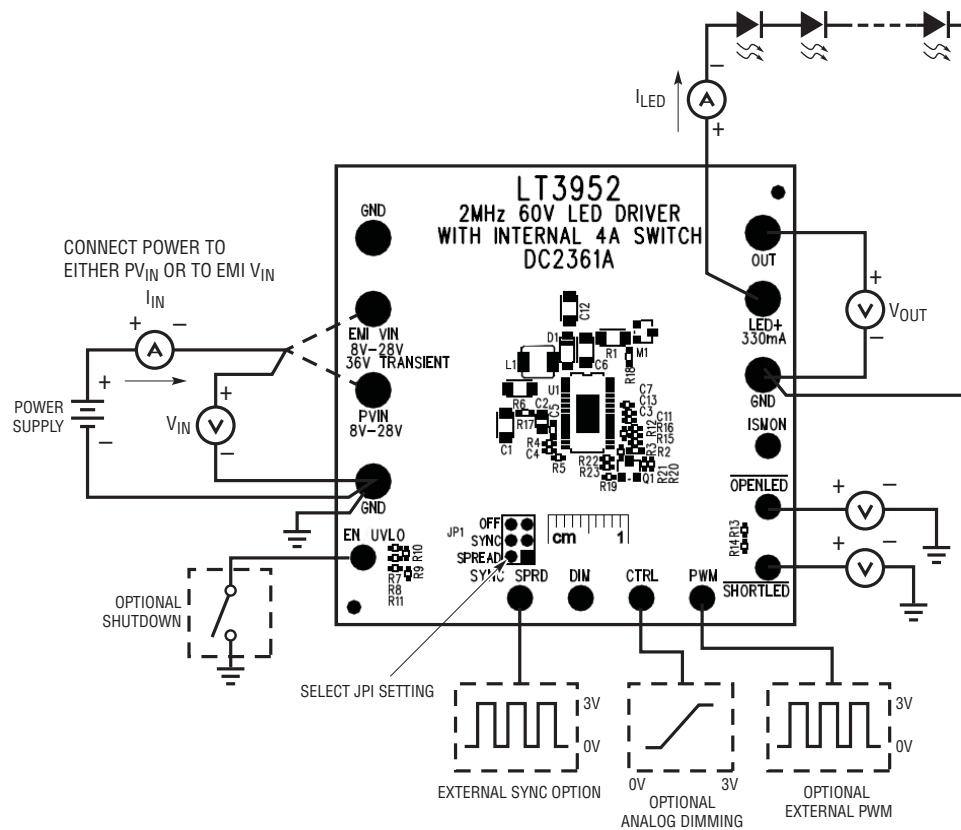

Figure 1. Test Procedure Setup Drawing for DC2361A
1. Connect a string of LEDs that will run with forward voltage less than or equal to 40V (at 330mA), but greater than  $PV_{IN}$ , to the  $LED^+$  and GND terminals on the PCB as shown in Figure 1.